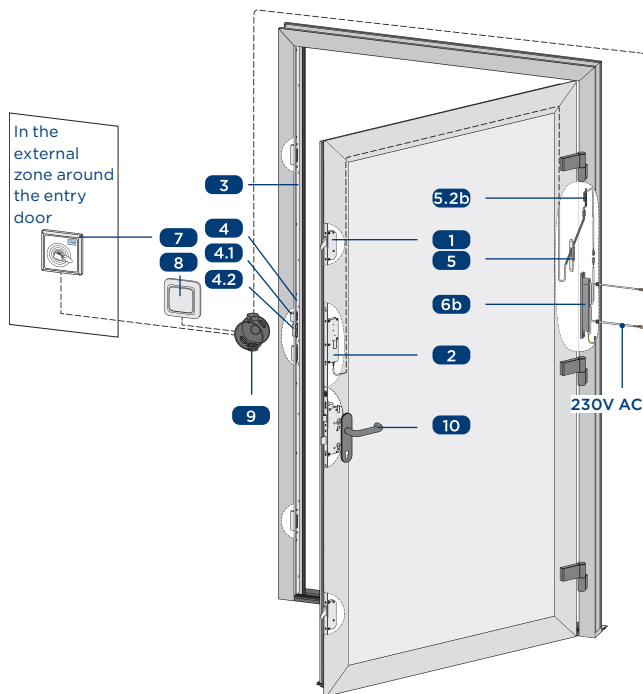

Figure 2-2: blueMatic EAV with accessories and frame power supply
5.2b	Figure 2-2: T-KÜ-T1 RT KABEL 0,6M RNT with plug connection to the fra- me power supply 24V DC (optional)
6b	Figure 2-2: Frame power supply T-NETZTEILRAHM.12V DC 1,5A (2A / 2S) (optional) including cable for connection of ex- ternal access controls, e.g. intercom, potential-free contact